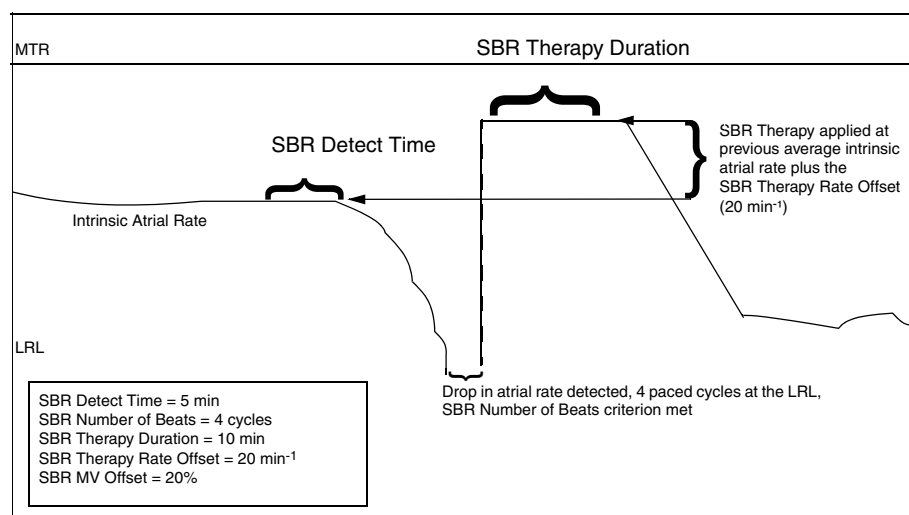

Figure 6-35. Example of a decrease in atrial rate meeting the SBR criteria.
SBR Therapy Rate Offset is calculated by using the patient's average atrial rate before the bradycardia and adding a programmable positive offset (Figure 6-35). Pacing is applied in the DDD(R) mode at the greater of either (1) the previous average atrial rate plus the SBR Therapy Rate Offset, not to exceed the MTR, or (2) the sensor-indicated rate (DDDR mode only).